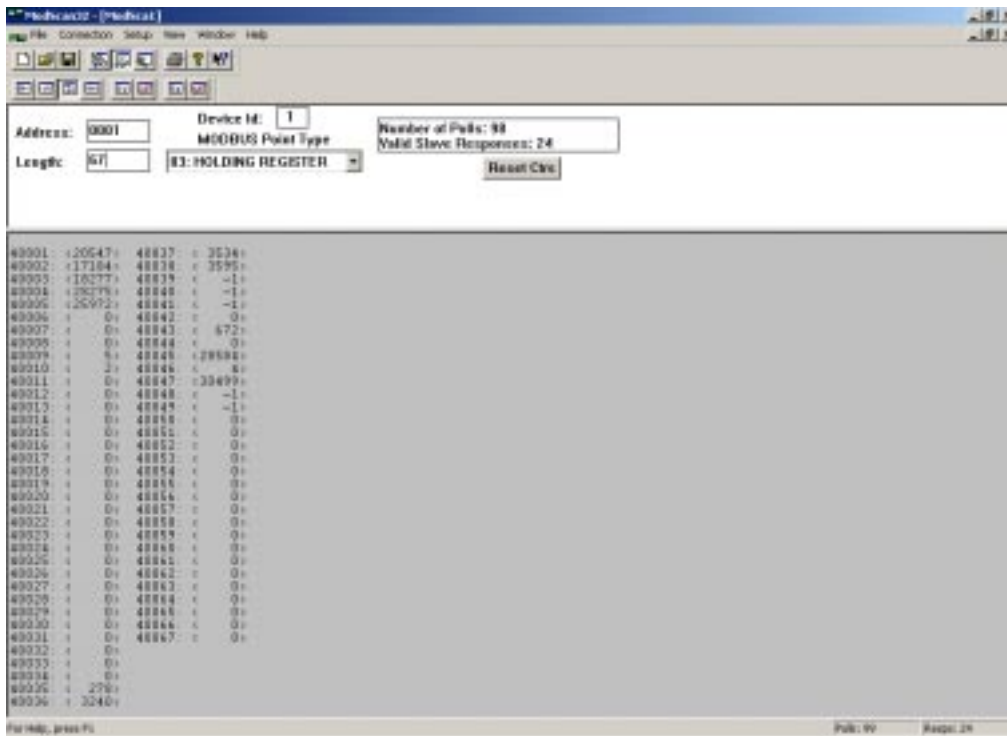

FIGURE 14. MODBUS POINT TYPE = HOLDING REGISTER
5. On the main ModScan screen (see Figure 14), Change the Address to 1001, the Length to 49 (ModLon Mapping Option 1 Rev B) or 65 (ModLon Mapping Option 2 Rev B, ModLon Mapping Option 3 Rev B), and the Device ID to 1. From the MODBUS Point Type pull down menu, select “03: HOLDING REGISTER.”